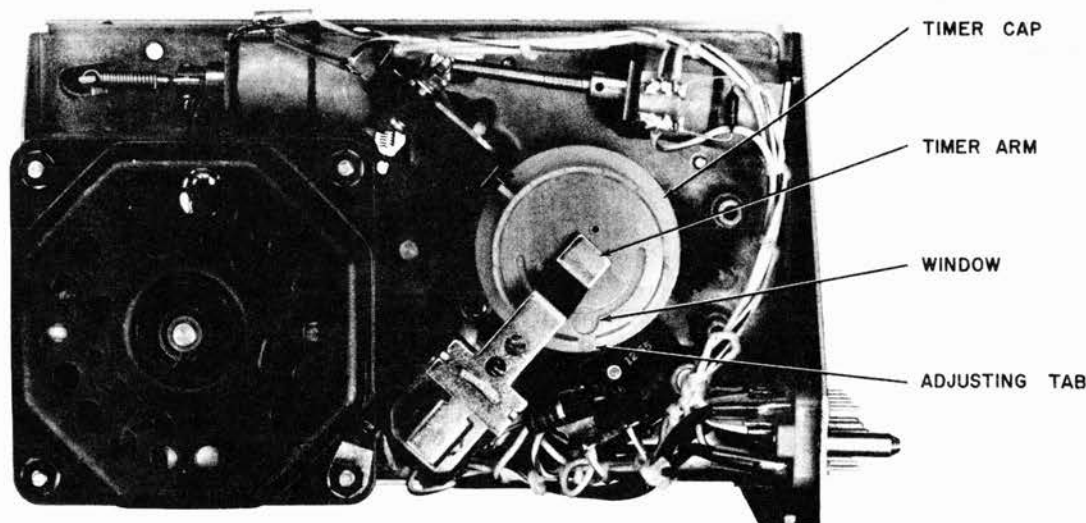

FIGURE 8 ADJUSTMENT FOR ANNOUNCEMENT MAXIMUM LENGTH
- c. Momentarily lift Timer Arm (fig. 8) away from the "A" Deck. An internal spring will cause the Timer Cap to rotate to the "zero time" position.
- d. Hold Timer Cap and carefully lift Adjusting Tab. Rotate Adjusting Tab until the desired maximum announcement length (in seconds) shows in the small Window (fig. 8).